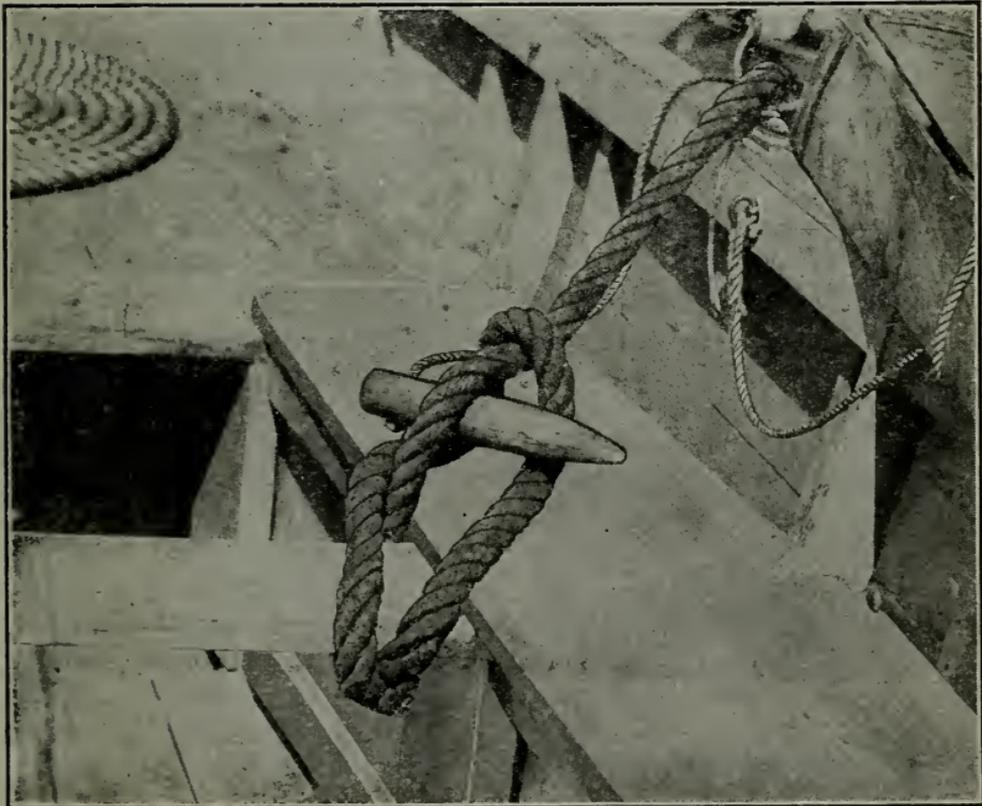

FIG. 32-5—Method of securing sea painter.
(2) If gripes stretch and become slack, they should be set up taut.
(3) At night, boat falls should be coiled down on deck, clear for running; during the day, the coils may be triced up to davit with becket and toggle.
(4) Where Raymond automatic releasing hooks are fitted, falls should be rove continuous between davit heads.
(5) The sea painter is led from a point well forward on the ship, outside of everything, and secured to the inboard side of the second thwart in such a manner that it can be readily cast off; if necessary, it is stopped up out of the water by a rope yarn. (Fig. 32-5.)